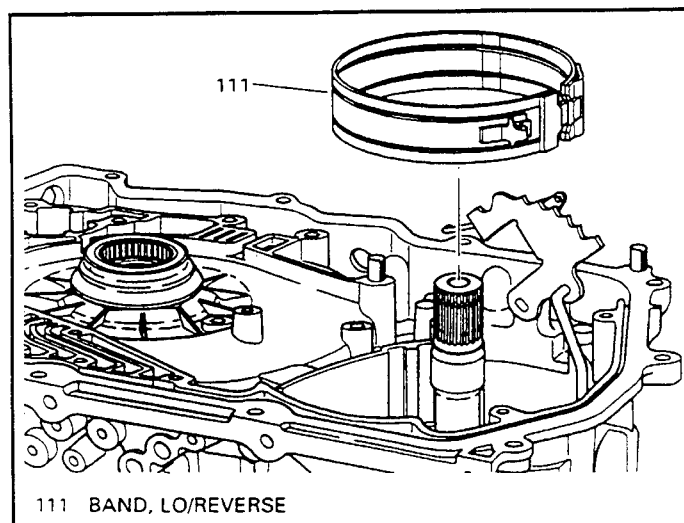

Figure 76
76. Remove the Lo/Reverse band assembly from the case, as shown in Figure 76.